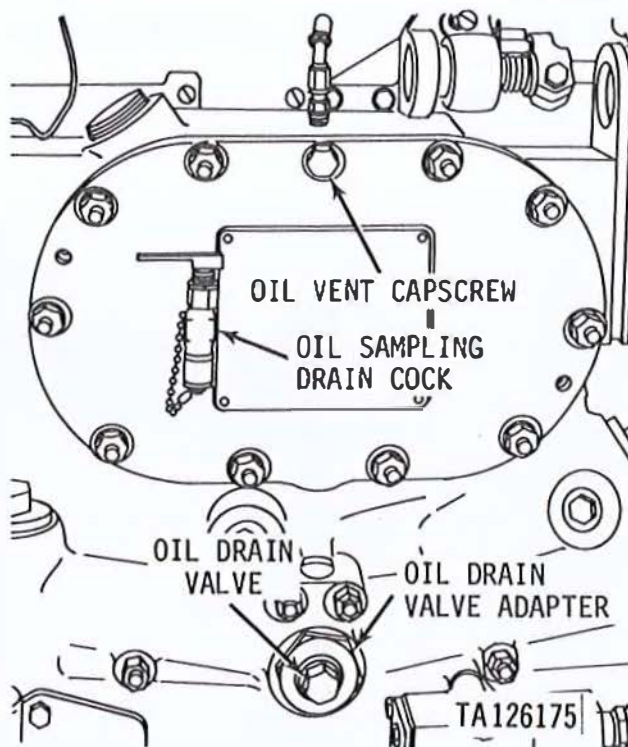

Figure 3-3. Draining oil filter housing and oil coolers.
c. Remove oil vent capscrew and seal washer (fig. 3-3). Remove and discard seal washer. Loosen oil drain valve six complete turns and allow oil to
d. After oil is drained from engine install oil vent capscrew in damper housing (fig. 3-3) and oil pan drain plug (fig. 3-2) in oil pan.
d.1. Remove oil sampling drain cock (fig. 3-3) on Model AVDS-1790-2DR only.